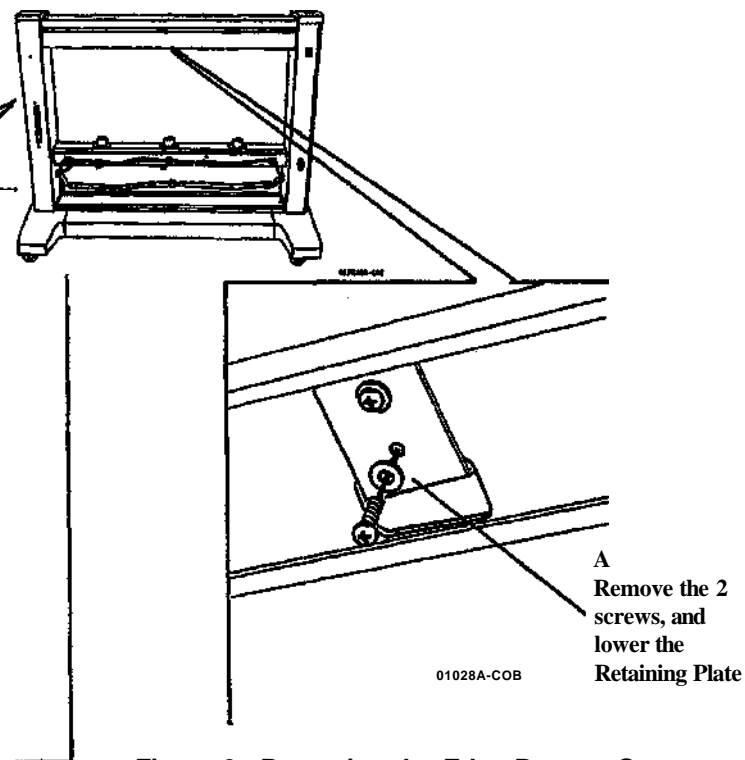

Figure 2. Removing the Edge Present Sensor
4. (Figure 2): Detach the Retaining Plate.